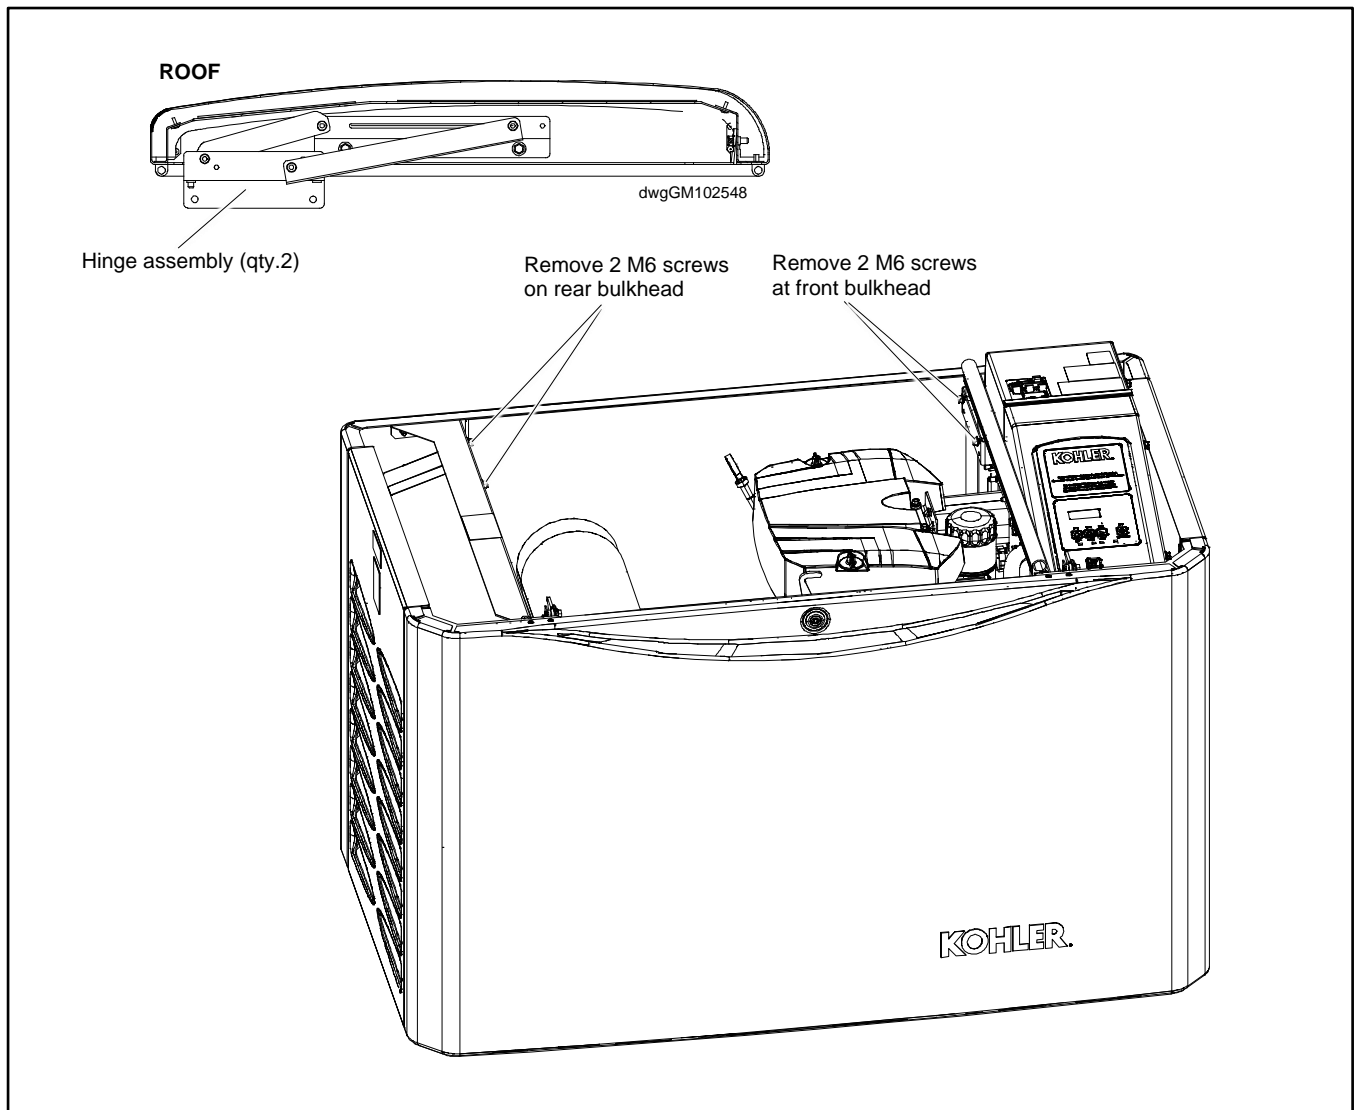

Figure 111 Roof Removal
3. The roof hinges are connected to the front and rear bulkheads using 2 M6 screws for each hinge. See Figure 111. Remove the 4 screws and remove the roof.